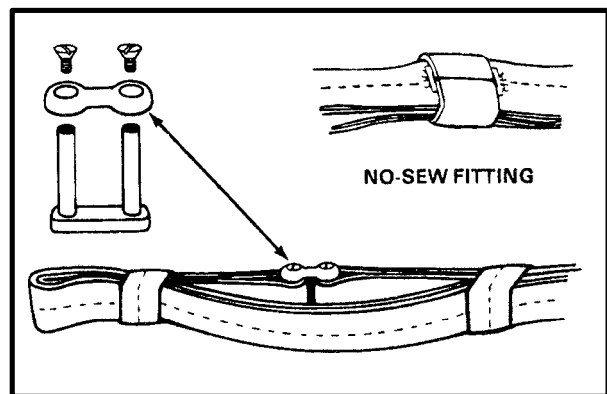

Figure 6-19. Connector Link
**b. Nylon Sling Leg.** The maximum capacity of each sling leg is 5,560 pounds. Each sling leg is made from a nylon web loop, 15 feet long, that is connected to itself by a connector link (Figure 6-19). The connector link is the same type link that is used on the web ring. The
separate nylon plies are held together by five web keepers. Three of the keepers are sewn to the nylon loops and the other two are called floating web keepers. The floating web keepers are located at either end of the nylon leg where they can slide back and forth to act as a cinch. All web keepers are held together by a no-sew fitting as shown in Figure 6-19.